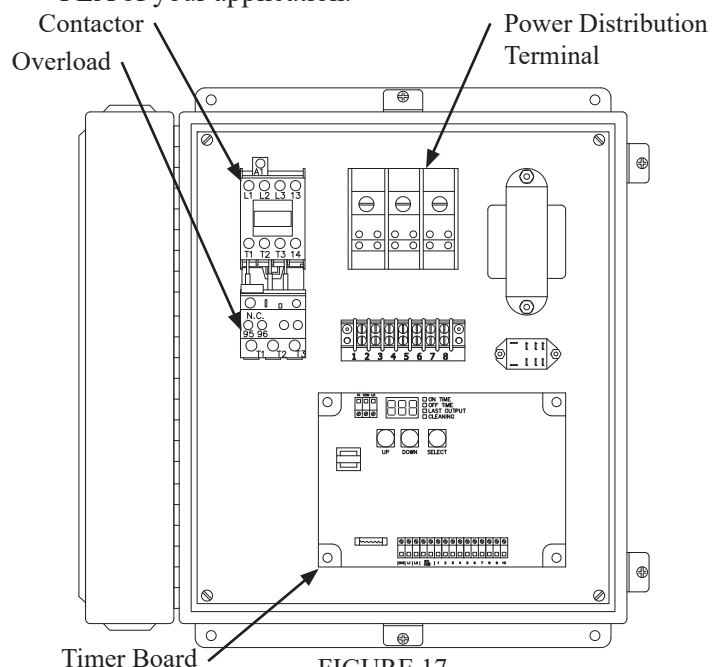

FIGURE 17
3. Open the electrical box cover located on the side of the unit. Make connections from your 208V, 230V, or 460V supply power to power distribution terminal L1, L2, and L3 (Figure 17). Wire size should be rated for FLA of your application.